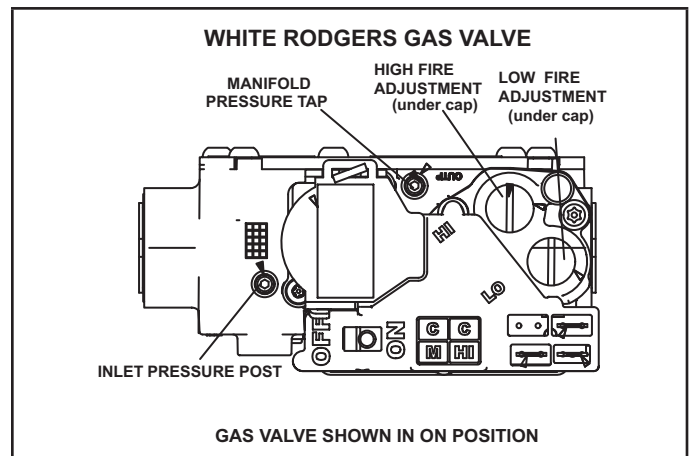

FIGURE 56
Gas Valve Operation (FIGURE 56)
- 6 - Move gas valve switch to **OFF**. See FIGURE 56.
- 8 - Move gas valve switch to **ON**. See FIGURE 56
An inlet pressure post located on the gas valve provides access to the supply pressure. See FIGURE 56. Back out the 3/32 hex screw one turn, connect a piece of 5/16 tubing and connect to a manometer to measure supply pressure. See TABLE 17 for supply line pressure.
A manifold pressure post located on the gas valve provides access to the manifold pressure. See FIGURE 56. Back out the 3/32 hex screw one turn, connect a piece of 5/16 tubing and connect to a manometer to measure manifold pressure.
- 5 - If necessary, make adjustments. FIGURE 56 shows location of high fire and low fire adjustment screws.